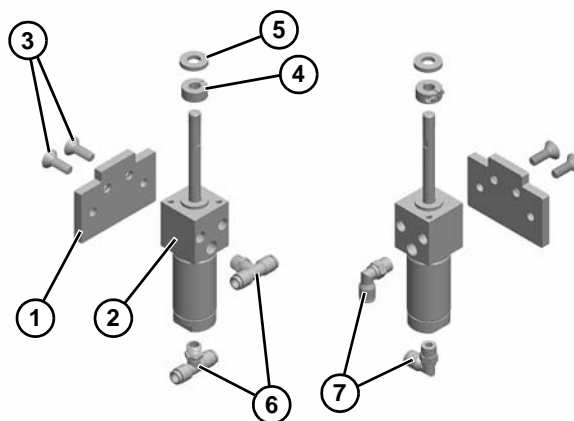

Figure 84
1. Install mounting plate (**Figure 84, item 1**) to cylinder (**Figure 84, item 2**) with flat head cap screws (**Figure 84, item 3**).
2. Install clamp collar (**Figure 84, item 4**) and washer (**Figure 84, item 5**) onto shaft.
3. On five cylinders, install two male tee branches (**Figure 84, item 6**) each. On one cylinder, install two male elbows (**Figure 84, item 7**) each.